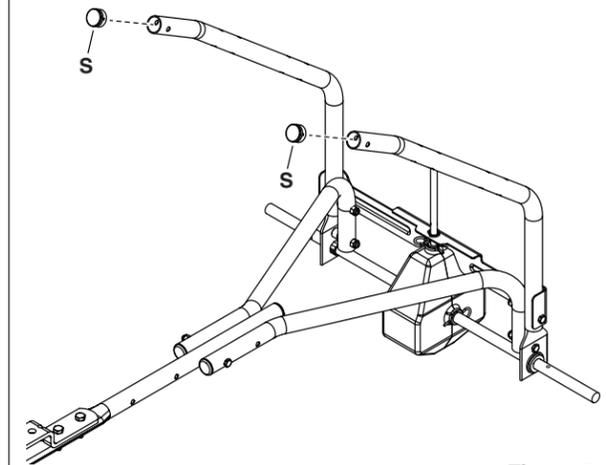

Figure 5
STEP 5: (SEE FIGURE 5)
- Insert plugs (S) into the ends of the hopper support tubes (5).